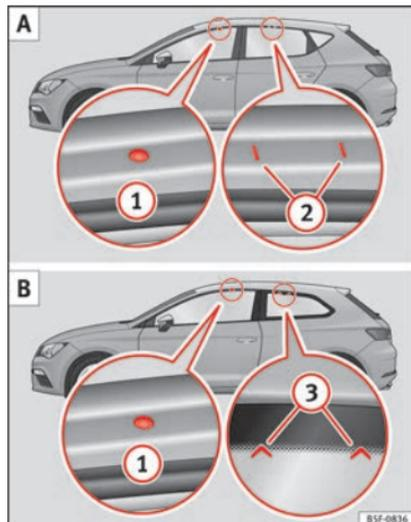

Fig. 184 Leon/Leon SC: attachment points for the roof railings for the roof carrier system. »
The front and rear attachment points ① and ② are only visible when the doors are open »» Fig. 184 A.
rear attachment points ③ are marked on the top edge of the glass with arrow heads »» Fig. 184 B.